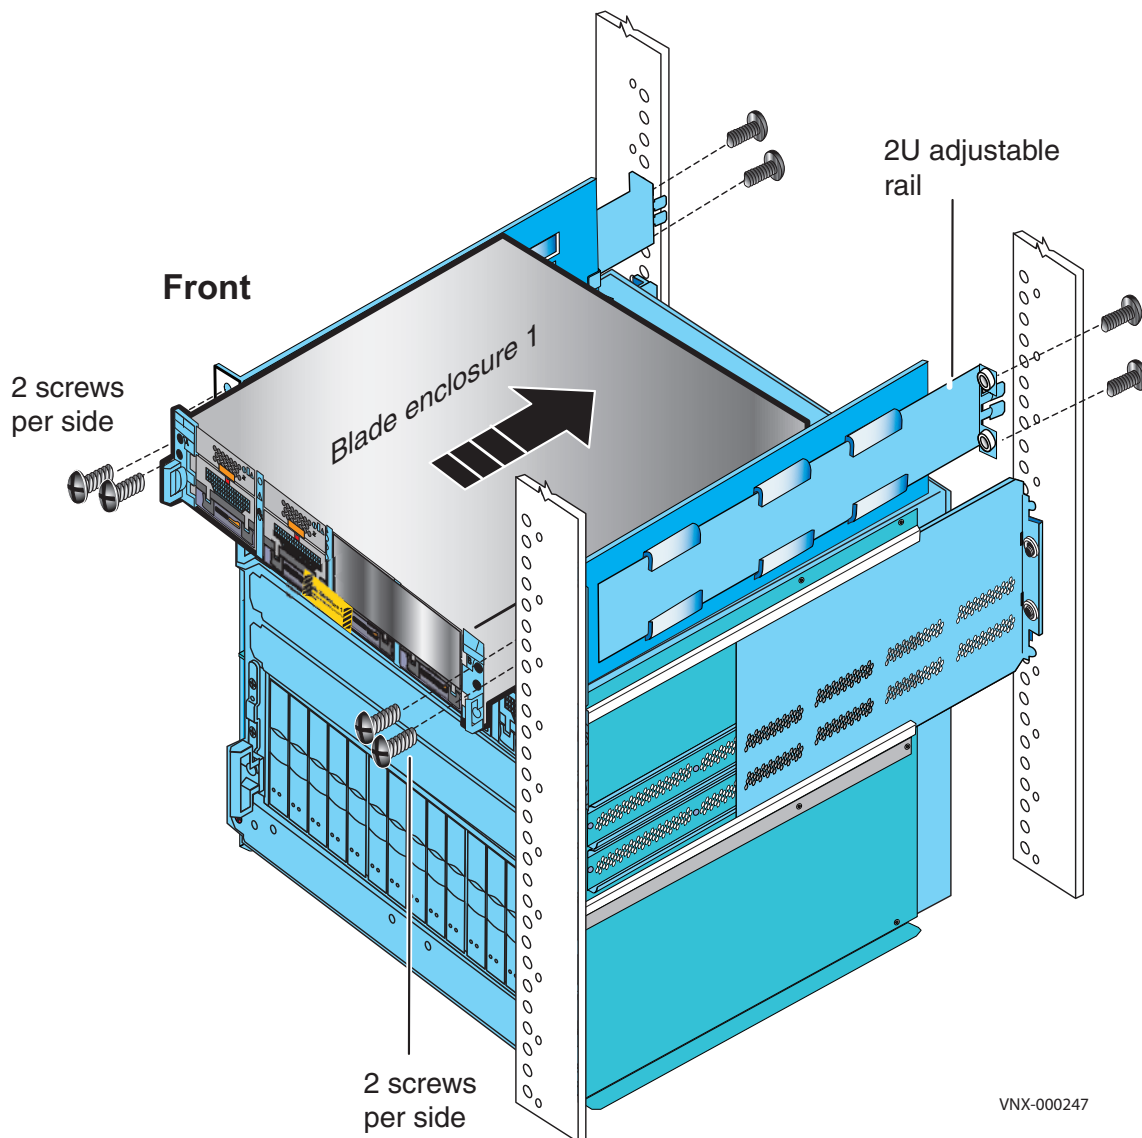

Figure 13 Installing blade enclosure 1
4. Slide blade enclosure 1 into the 2U adjustable rail above blade enclosure 0 as shown in Figure 13.
5. Working in a diagonal pattern bottom left and top right, bottom right and top left, attach, but do not tighten, the component by inserting the four screws through the blade enclosure, the cabinet rail, and into the ganged rail as shown in Figure 13.